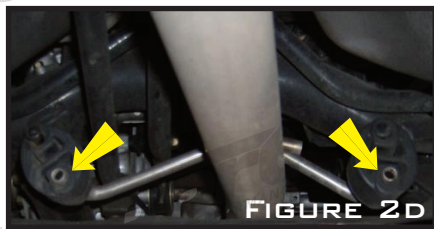

FIGURE 2D
**HD** D) SPRAY EXHAUST HANGERS ON FORWARD PIPE, SHOWN IN FIGURE 2D, WITH SILICONE SPRAY OR WD-40 AND REMOVE